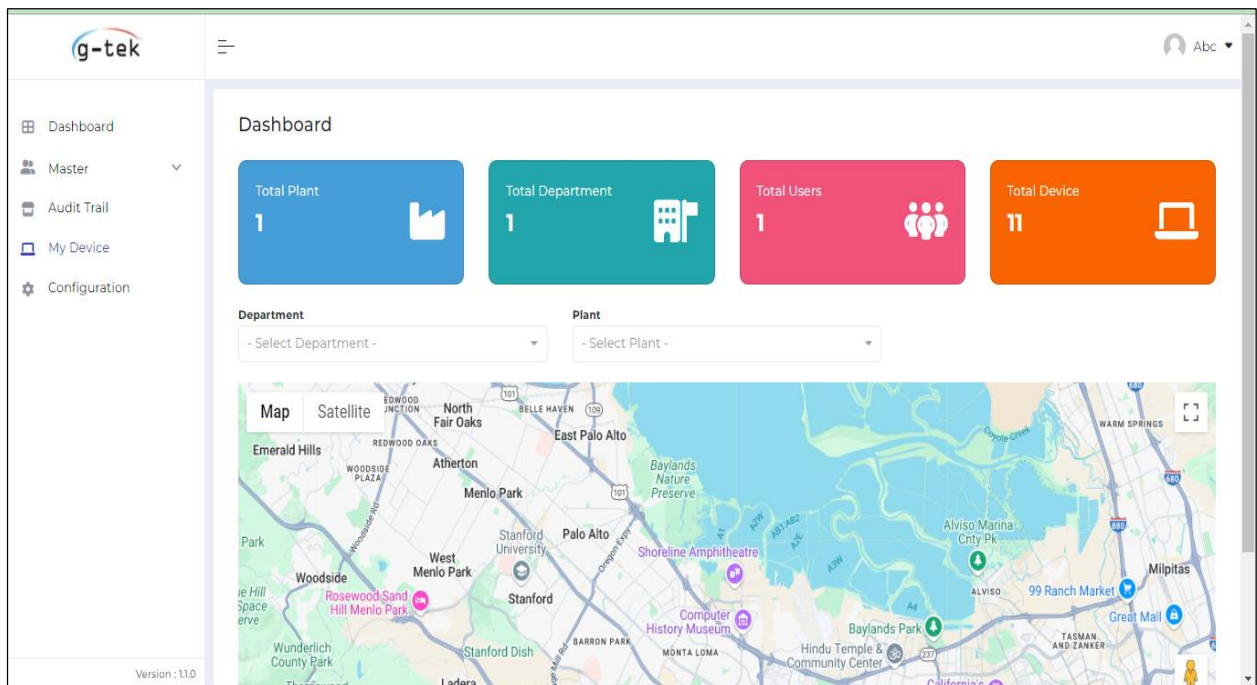

Figure 31 GtekCloud Application Dashboard
- First add the Plant, Department details, then add users with permission options available in the left side panel of the application window as shown in figure 31.